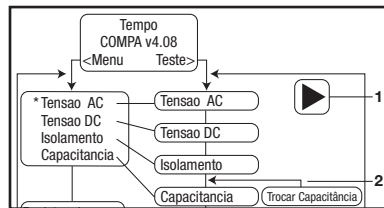

Figure 1
2. While holding the connector firmly, pull down on the cleave protector to remove it from the connector (Figure 1).